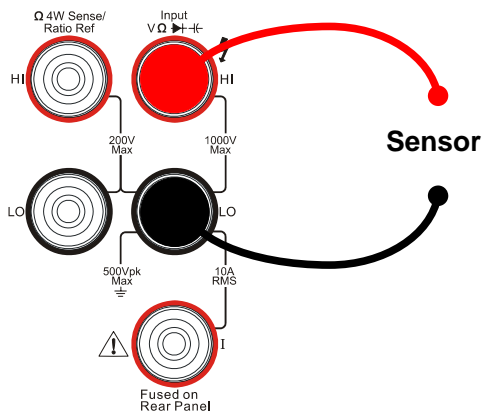

Figure 1-48
1. Connect test leads as Figure 1-48, 1-49 shown. Red test leads connect the HI Terminal, Black test leads connect the LO Terminal.